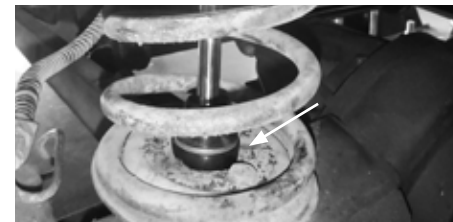

Fig. 3: Passenger side
9. Reinstall shock tower assembly. Install shock into lower mount, using washer and stem bushing on each side, tighten lock nut until 5/8" of total stem is showing (Fig. 3).